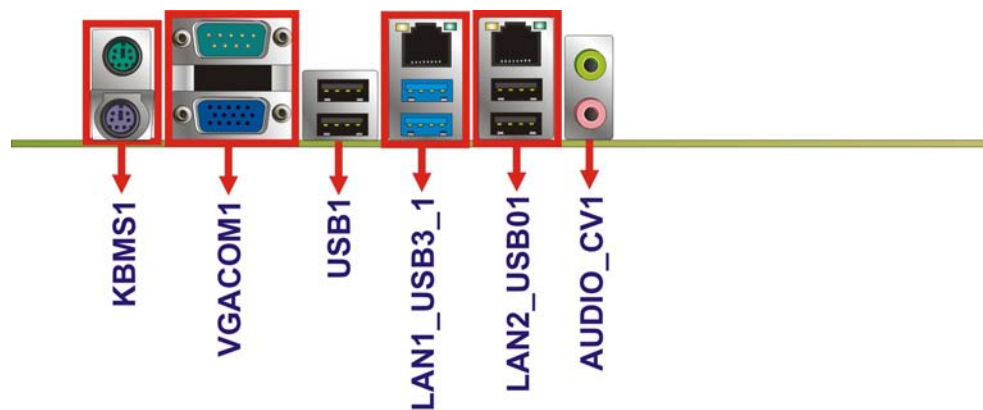

Figure 3-28: External Peripheral Interface Connector
CN Location:	See Figure 3-28
CN Location: See **Figure 3-28**
- CN Location: See **Figure 3-28**